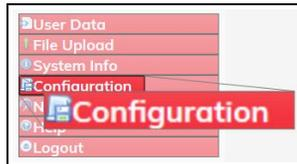

Figure 281: Configuration link
4. On the **Menu** list, click the **Configuration** link. Figure 281